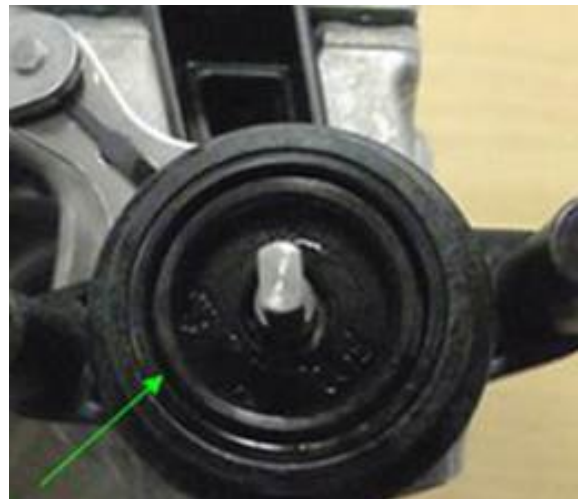

Figure 6. Correctly-inserted seal.
6. Insert the seal. The open side of the seal faces the potentiometer. Use your fingers to press the seal ring into the seal mount firmly. Ensure that the seal is fully inserted (Figure 6).